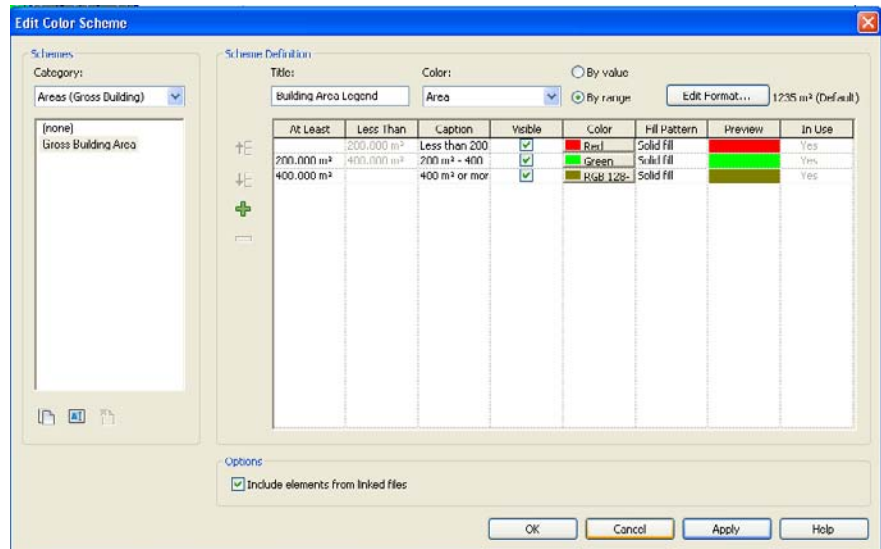

Figure 11.17
17. Click OK to return to the model. It should look like Figure 11.17.